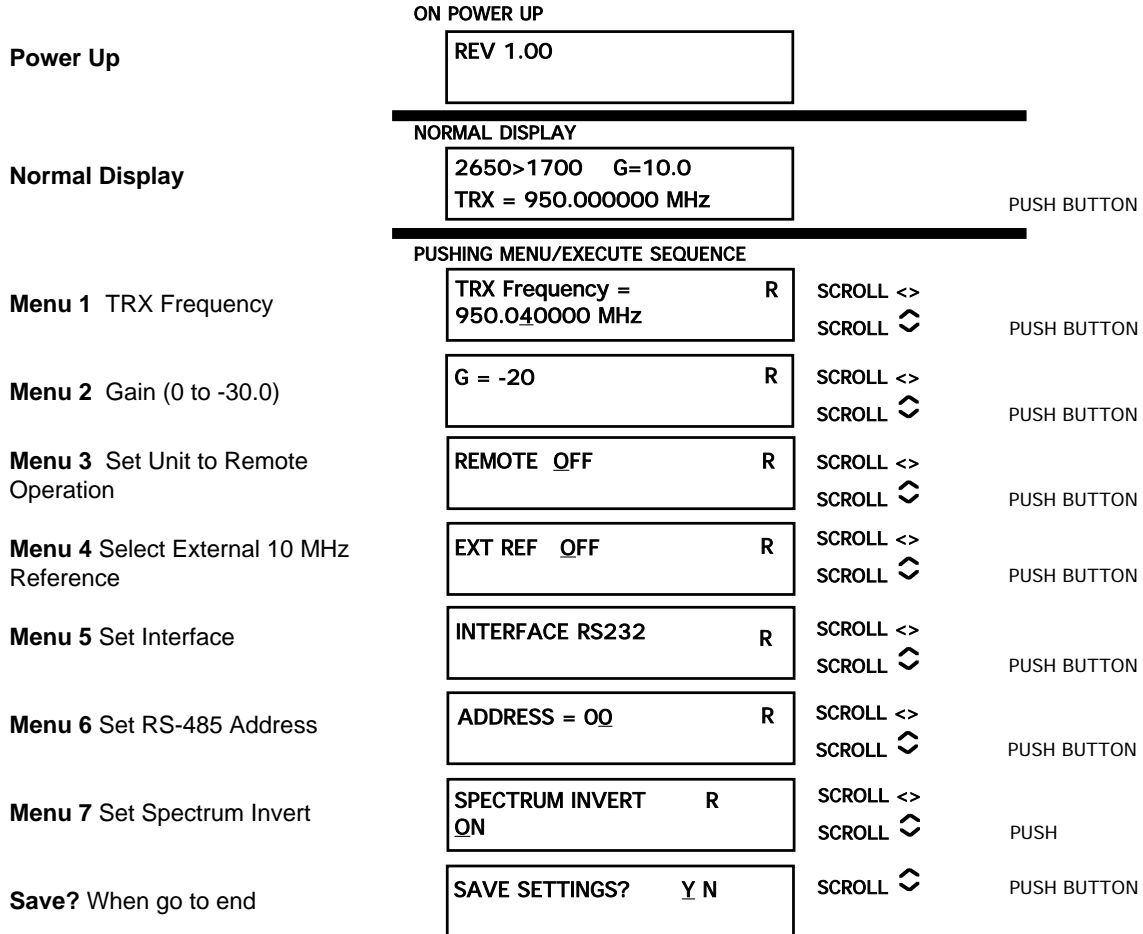

FIGURE 2.5 Menu Display and Sequence
2.5.1 Functions - This section describes operation of the front panel controls. There are three operator switches, the LCD display and alarm indicator LEDs. All functions for the equipment are controlled by these components. The functions are (see Figure 2.5):
(See Figure 2.5 for the sequence of menu options):
Figure 2.5 gives the menu items and how to make changes.